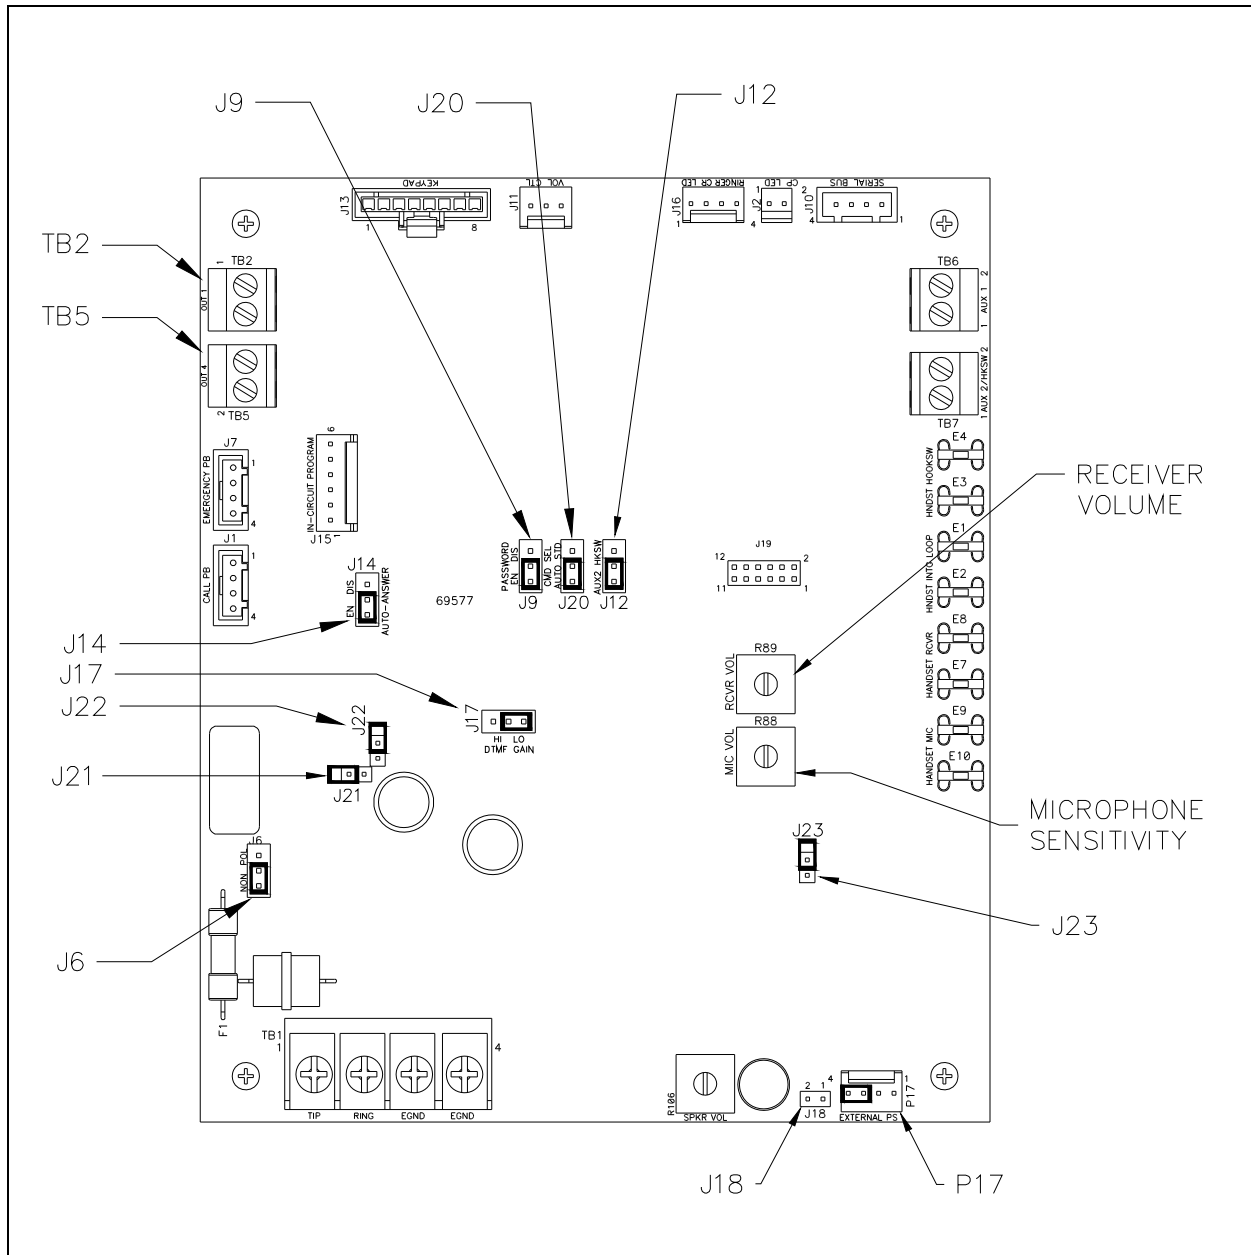

Figure 13. SMART Telephone PCBA
- Adjust the audio levels, if necessary. Refer to Figure 13 for Receiver Volume and Microphone Sensitivity potentiometer locations.
The hardware configuration options are explained in detail in the following sections and the necessary jumper settings are identified to enable or disable each option. We recommend reading the following sections, recording the desired parameters, and then making the necessary changes. We also recommend that you make a record of your settings. The following options are controlled by specific hardware configurations. See Figure 13 on page 23 for the jumper locations.
The group of five available volume levels can be shifted with the handset receiver potentiometer R89. Refer to Figure 13. If adjustment is desired, adjust R89 while the ambient noise level is low (and prior to securing the front panel assembly).
The handset microphone sensitivity can be changed with the Mic Vol potentiometer, R88. Refer to Figure 13. If adjustment is desired, adjust R88 prior to securing the front panel assembly.
Each telephone includes two isolated solid state switches capable of switching a maximum of 48 V dc, 125 mA, or 28 V_{RMS} ac, 80 mA_{RMS}. TB2 (OUT1) and TB5 (OUT4) on the SMART Telephone PCBA provide the connections for the auxiliary outputs. Refer to Figure 13 for the location of TB2 and TB5.